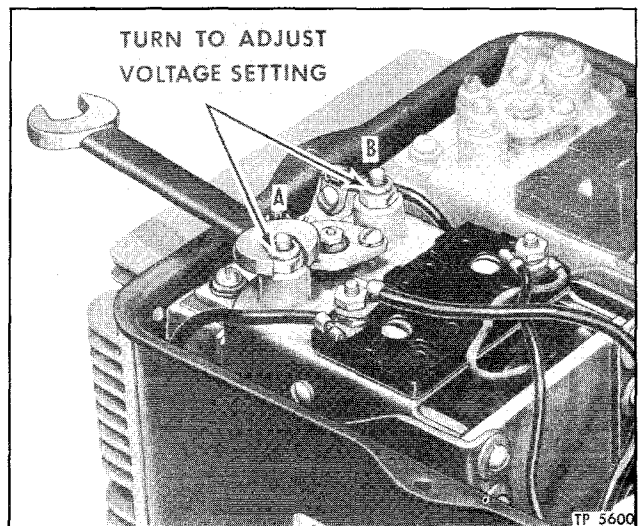

Figure 24—Voltage Regulator Setting Adjustment
5. Loosen voltage adjusting nut "A" on voltage regulator slowly (fig. 24). As nut is loosened, generator voltage will fall until spring tension is relieved. Loosen only until voltage stops falling. Further loosening may allow spring to unhook.
11. Recheck voltage setting as in Step 8. Adjust nuts "A" and "B" (fig. 24) equal amounts
4. Loosen current adjusting nut "A" on current regulator (fig. 24) slowly. As nut is loosened, generator output will fall until spring tension is relieved. Loosen only until output stops falling. Further loosening may allow spring to unhook.
9. If necessary, adjust current output to specified value by tightening or loosening nuts "A" and "B" (fig. 24) in equal amounts as required. Check final current setting by lowering and raising output as in Step 8.